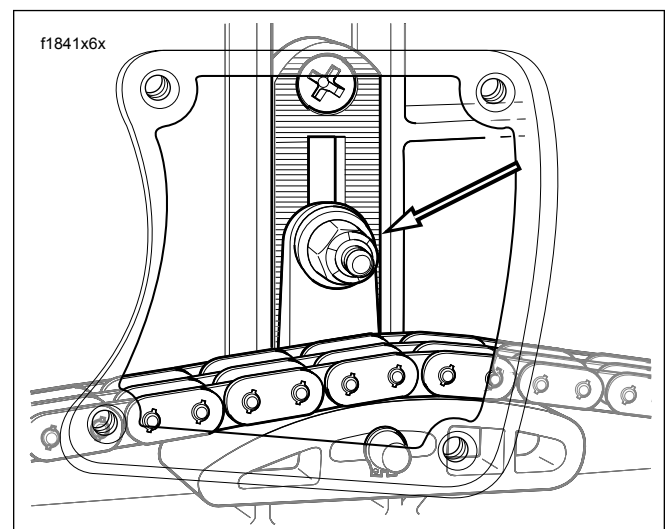

Figure 1-6. Primary Chain Tensioner Assembly
- a. Locate the primary chain tensioner assembly and loosen the top center nut a maximum of two turns. See Figure 1-6.